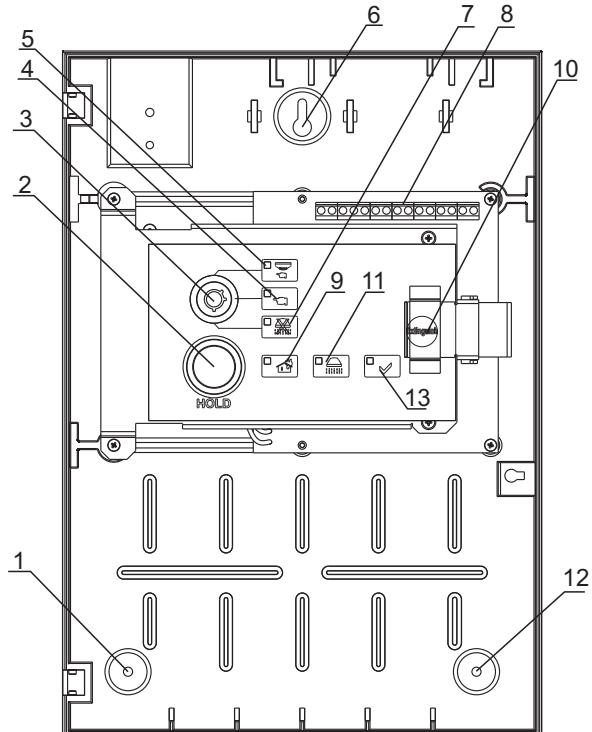

Fig.2
- Fix the module to the dowels through the three openings of the box (pos. 1, 6, 12, fig.2);
All signal and power cables are connected using the terminals (pos.8, fig.2), mounted on the printed-circuit board (fig.3).